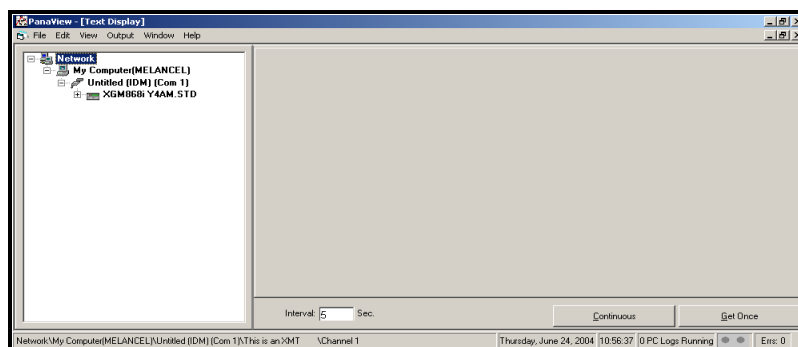

Figure 3-4: The Text Display Window
2. Using the *Window* menu, as described on page 5-19 of the *PanaView User's Manual*, arrange the open windows in the desired format. For this discussion, Figure 3-4 below shows the *Text Display* window in its maximized (full-screen) size.
5. Before actual data values can be displayed in the text pane, activate one of the following data collection modes (see Figure 3-4 on the previous page):